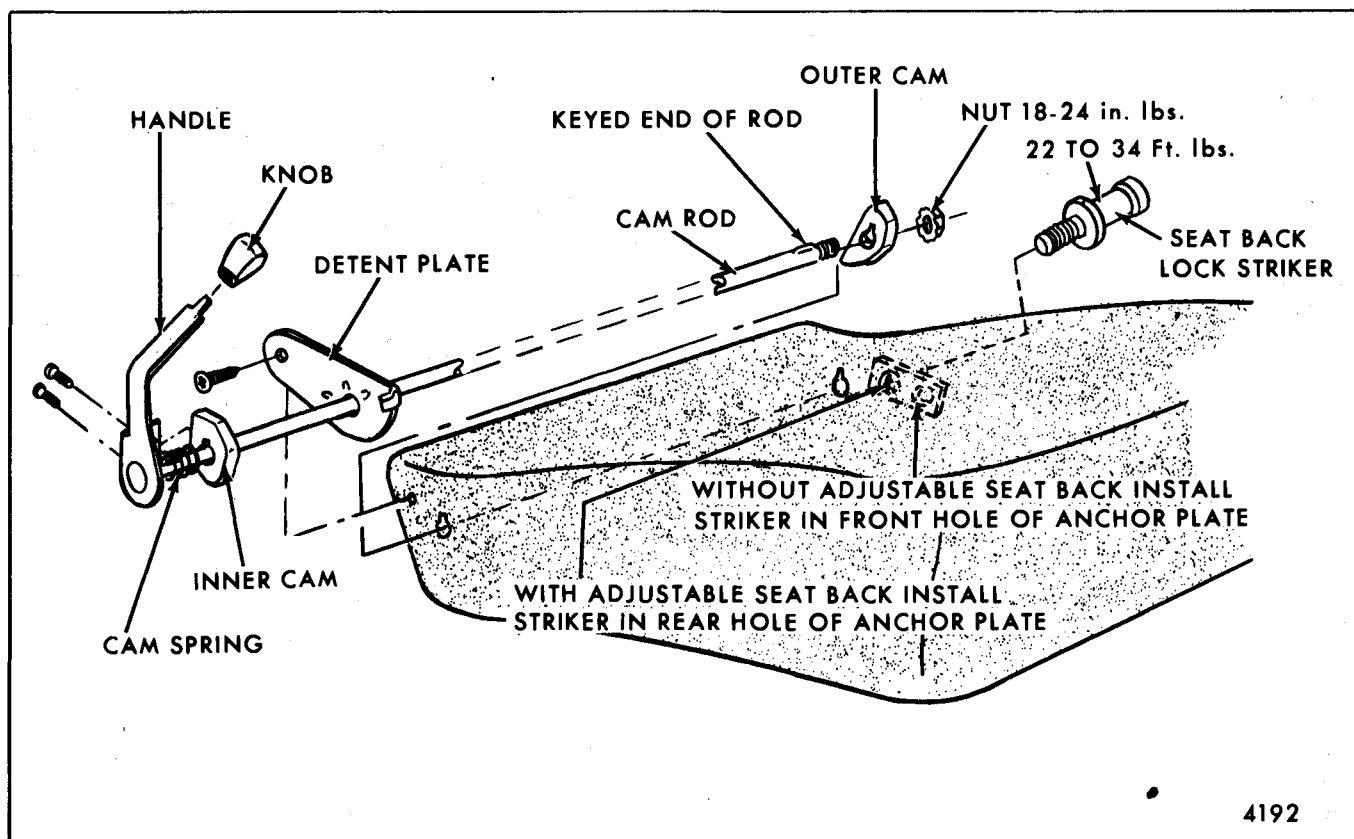

Fig. 14-45-Adjustable Drivers Seat Back Handle, Cams, Cam Rod, Detent Plate and Spring Removal and Installation from Seat Cushion - Chevrolet "F" Styles
4. To remove cam rod, pull rod out of seat cushion from inner side of seat (see Fig. 14-45).
IMPORTANT: On the DRIVERS seat ONLY two threaded holes are provided in the outboard anchor plate for installation of the seat back lock striker. The striker must be installed in the FRONT threaded hole on a drivers seat WITHOUT adjustable seat back. On a drivers seat WITH adjustable seat back the striker must be installed in the REAR threaded hole (see Fig. 14-45).